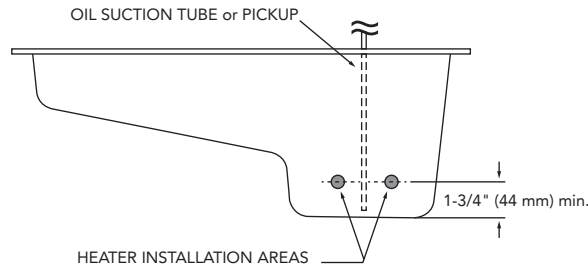

Figure 5. Possible heater installation areas. Keep heater away from objects such as an oil suction tube or pickup.
3. Install the oil heater low in the side of the oil pan or sump. Do not install heater lower than 1-3/4 inches (44 mm) from the bottom or walls of the sump. Keep heater away from internal objects. See Fig. 5. To find the thread size needed for your heater model, see Table 1.